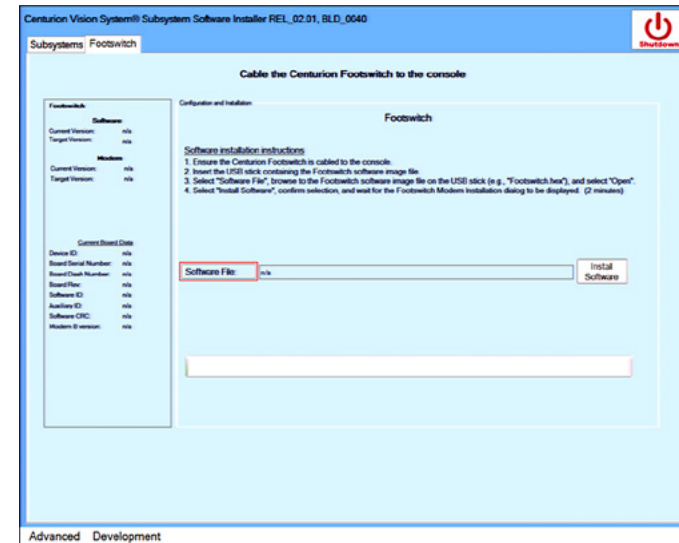

Figure 4-7 Subsystem Software Installer Screen - Footswitch Tab
- 2.2.17 From the Subsystem Software Installer screen, select Footswitch Tab in upper right corner (see Figure 4-7).